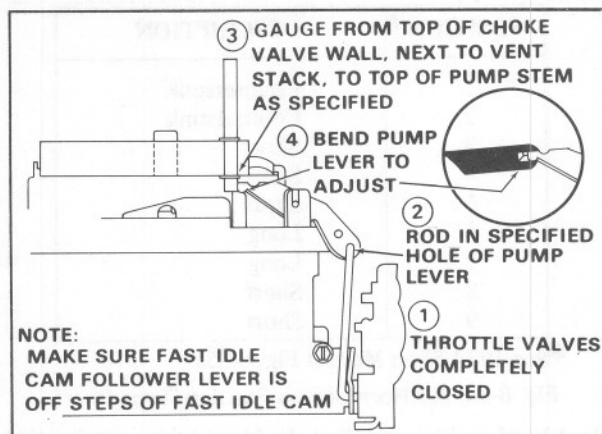

Fig. 6-45 Pump Rod Adjustment
### 24. Pump Rod Adjustment (Fig. 6-45)
4. Bend pump lever, as shown in Fig. 6-45, to adjust (see inset).